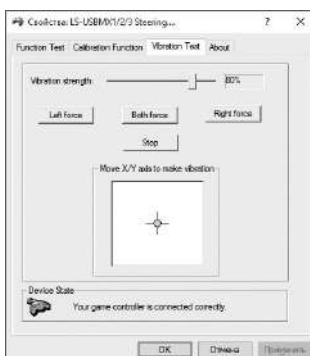

Fig. 11
• In the «Vibration Test» tab, you can check the operation of both vibrators together by pressing the «Both force» button; or separately, by pressing the «Left force» and «Right force» buttons (Fig. 11). To stop the test, press the «Stop» button. Moving the cursor in the row «Vibration strength» we can increase or decrease the force of vibration. To save the settings, click «Apply» or «OK» in the bottom line of this window.